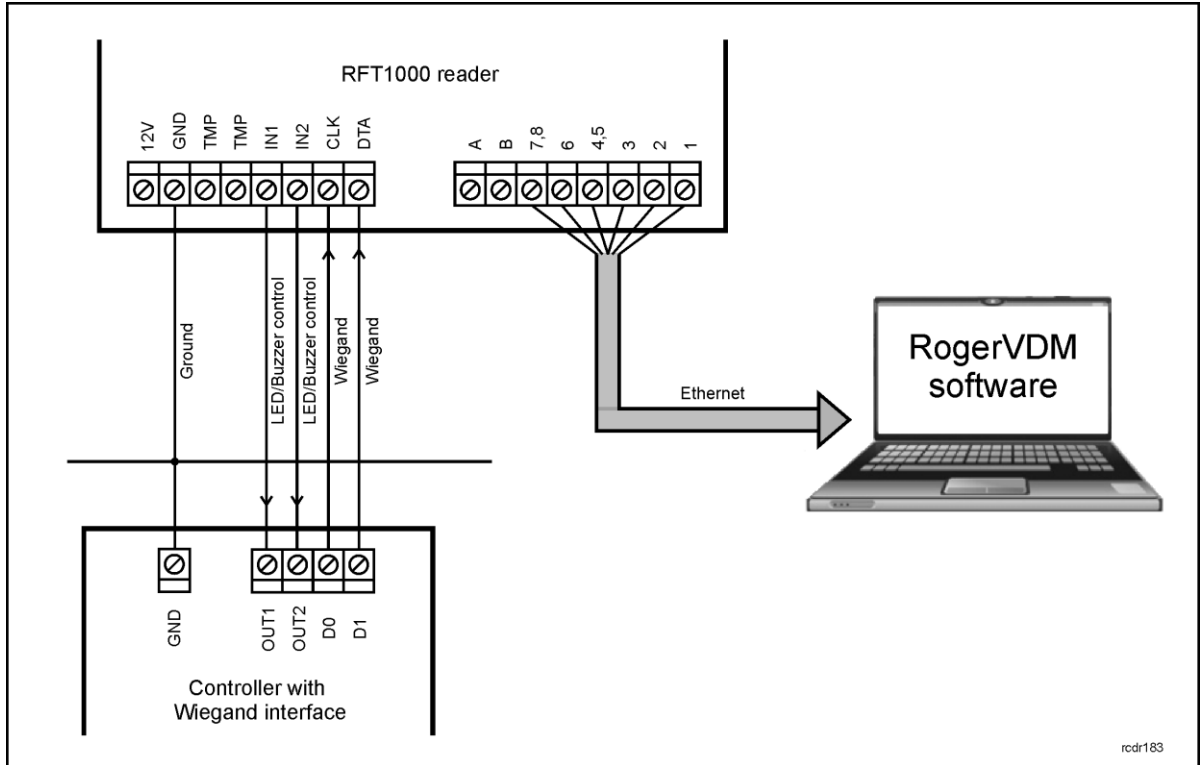
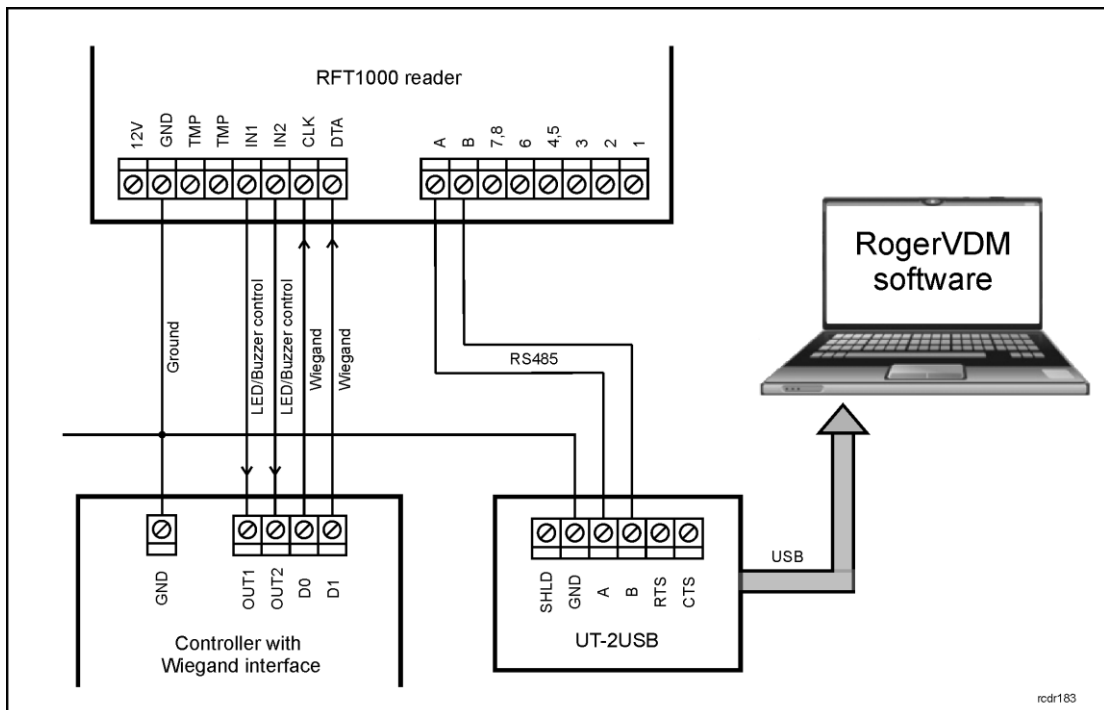

Fig. 2 Connection diagram for RFT1000 and master device (controller) - configuration through Ethernet port (recommended)
Fig. 3 Connection diagram for RFT1000 and master device (controller) - configuration through RS485 port
RFT1000 reader is equipped with three LED indicators on its front panel. These indicators are used for signalling current states of the reader. Particular LED indicators can be activated by means of reader's inputs. In such case, master device by its outputs connected to RFT1000 inputs (see fig. 2 or 3) can activate indicators as needed. Additionally, it is possible to configure behaviour of reader's indicators in particular situations. More information on configuration of LED indicators is given in par. 4.3 Configuration of inputs and LED indicators
1. Connection of the reader to network through Ethernet port according to fig. 2. or through RS485 port according to fig. 3. By default, RFT1000 is configured for Ethernet communication.
3. Connection of the reader to master device (controller) by means of Wiegand interface according to fig. 2. Optionally, reader's inputs can be connected to master device outputs and configured.
RFT1000 reader can operate with all kinds of master devices if they are equipped with Wiegand interface. After proper connection in accordance with fig. 2, there must be executed configuration of connection both on RFT1000 side and master device side.
7). According to fig. 2, master device can control LED indicators and buzzer in the reader by means of input lines (IN1, IN2). Additionally, it is also possible to switch Card Reader Mode by means of reader's input.